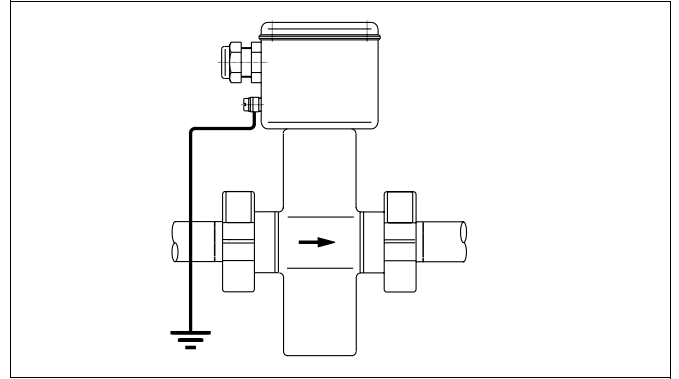
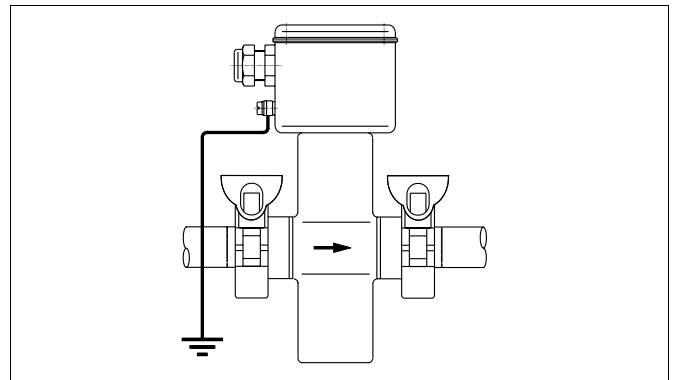

Fig. 20 Flowmeter Primary 1/10" - 4 : DN 3 - 100, Aseptic Connections
Fig. 21 Flowmeter Primary 1/10" – 2-1/2" : DN 3 – 65, Tri-Clamp Connections
- The ground screw for Models 10DX2112 is located on the lower section of the connection box, see Dimensions in the Specification Sheet. For instrument designs with aseptic connectors, Tri-Clamp and hose connectors the meter tube is in electrical contact with the fluid. It is only necessary to connect the ground connection on the flowmeter primary to ground, see Fig. 20 and Fig. 21.
- 4) Connect a 4 mm² CU wire between the ground connection on the flowmeter primary and the potential equalization (PA).